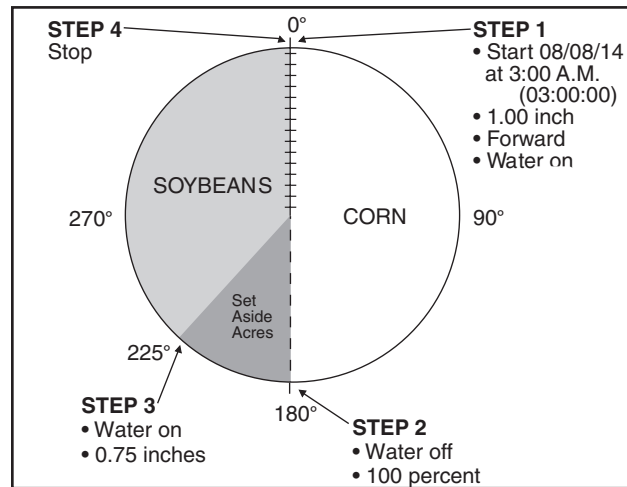

Figure 122-1
In this program example, the machine is being programmed to start on a specific date and time, water one half of the field, turn the water off, and increase speed over set aside acres. It then turns the water on, sets the depth, and waters the remaining half of the field, stopping at 0°. Refer to Figure 122-1.
1. Push **Prog.** and **Step Prog.** to view the Step Program screen. Refer to Figure 122-1.